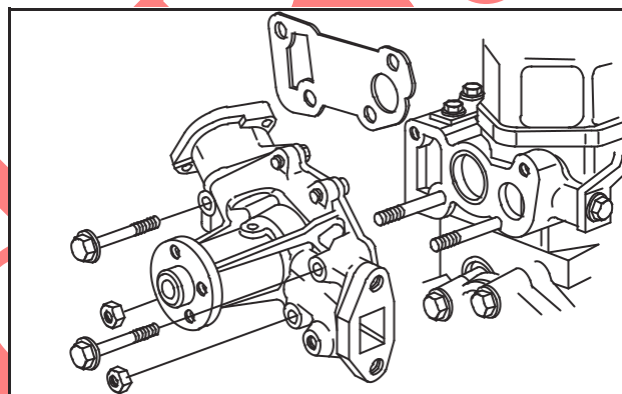

Fig. 39 – Install Water Pump
1. Install water pump with new gasket, Fig. 39.